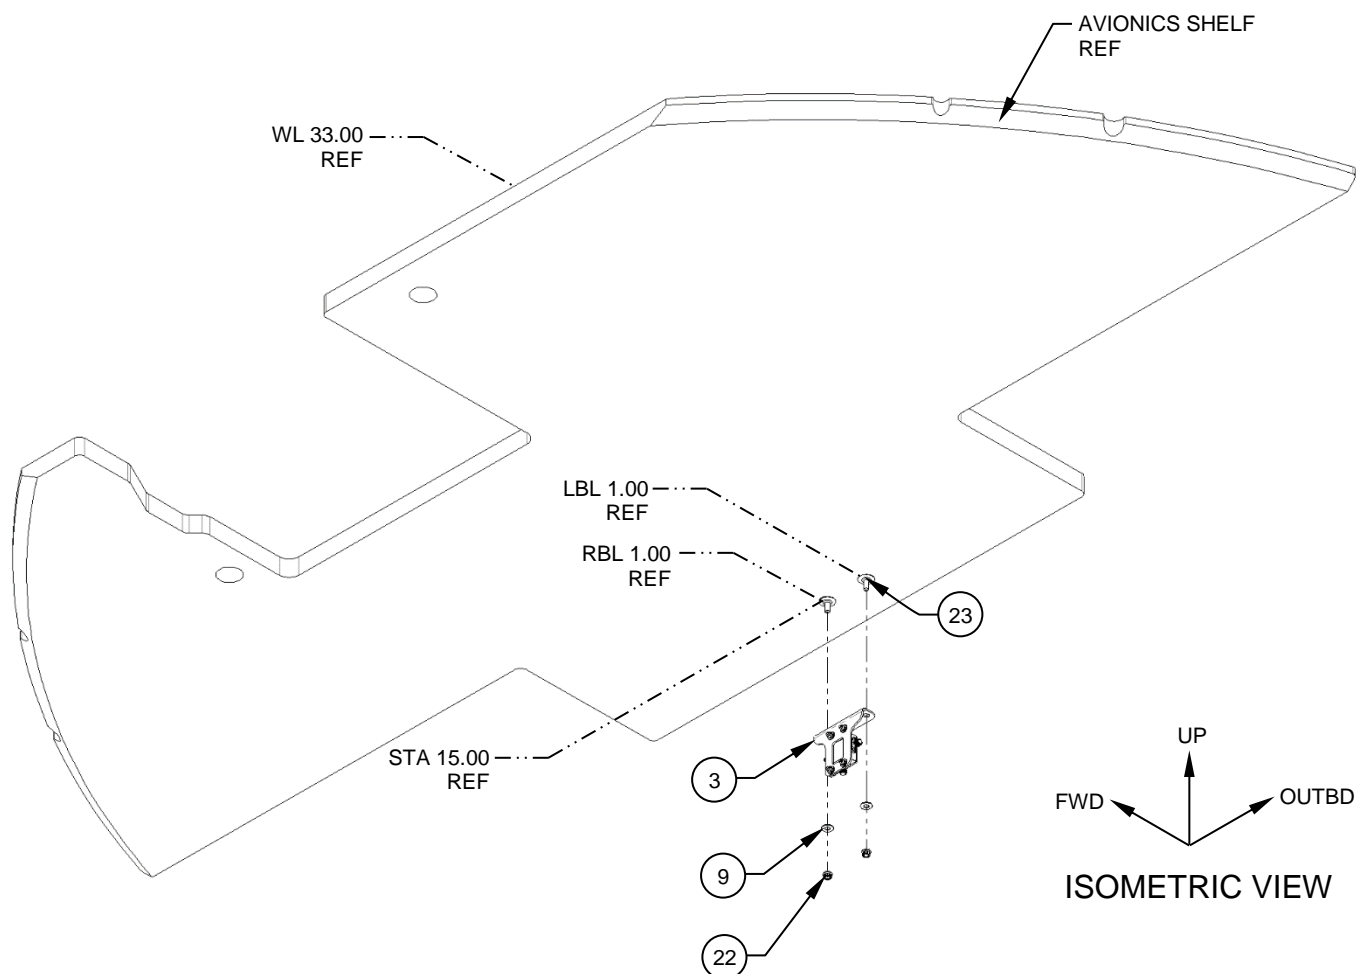
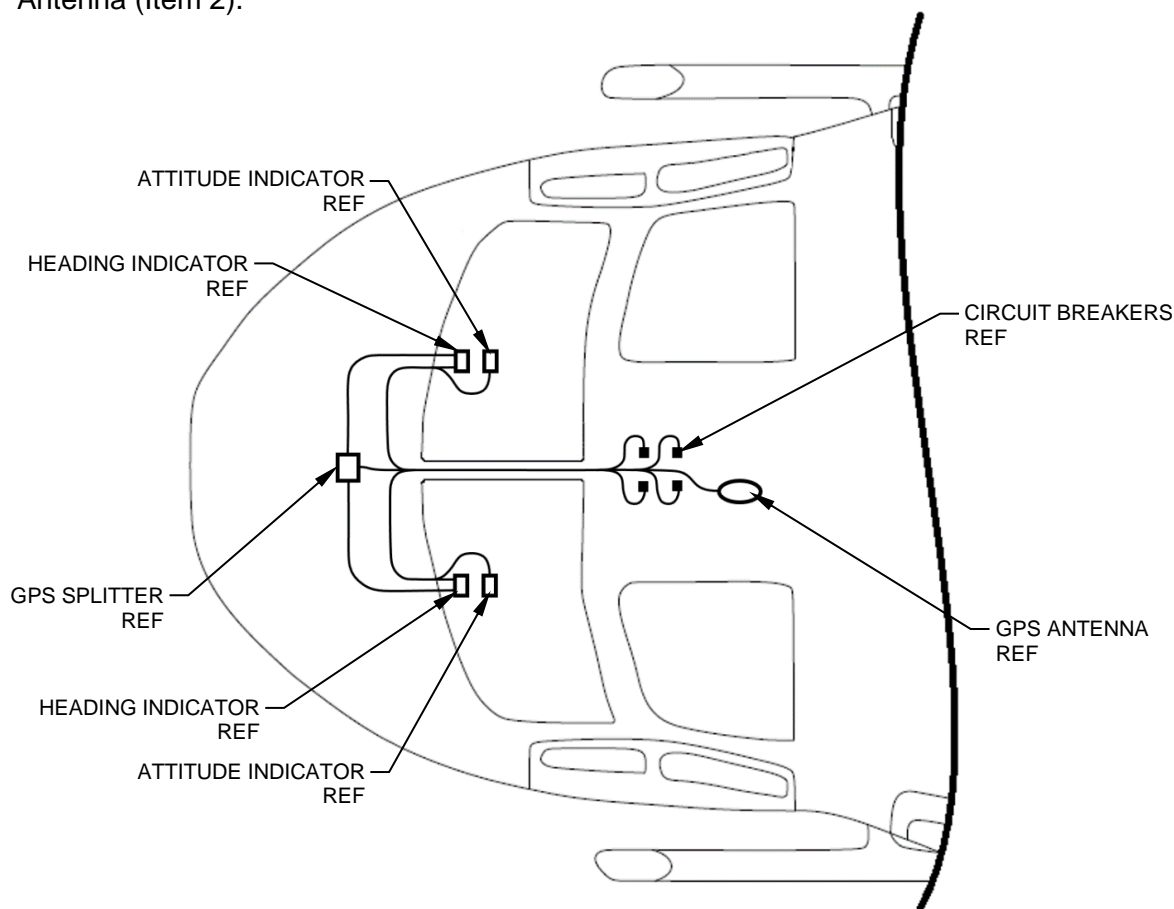

Figure 5
Figure 8
8. Install the Stud, Adhesive Mounted (Item 23) in the locations shown. Reference Figure 5. Installation of the studs shall be performed as per the instructions detailed in Appendix A. The position shown is the preferred location however, deviation is permitted to accommodate individual aircraft configurations. Recalculate weight and balance accordingly.
9. Install the Splitter, Assy (Item 3) with the supplied fasteners as shown. Reference Figure 5.
13. Install the Coax Cable, Assy (Item 48) by fastening the Coax Cable, Assy to the back of the pilot (RHS) Heading indicator (Item 31) and route the cable as shown. Reference Figures 8, 9 & 10 and Appendix B. Fasten the opposite end of the coax cable to the “OUT 2” port of Splitter (Item 5) Reference Figure 5. If not installing on the LHS as well, connect the coax cable to the “OUT 1” port.
14. Install the Coax Cable, Assy (Item 37) by fastening the Coax Cable, Assy to the back of the co-pilot (LHS) Heading Indicator (Item 31) and route the cable as shown. Reference Figures 8, 9 & 11 and Appendix B. Fasten the opposite end of the coax cable to the “OUT 1” port of the Splitter (Item 5) Reference Figure 5.
17. Install the Wiring Harness, Assy (Item 47) by fastening the connector to the back of the pilot Heading Indicator (Item 31) and route the wires as shown. Reference Figures 8, 9 & 10. Cut the un-terminated end of the wires to length and terminate with the provided ring terminals (Items 49 & 50) as per the wiring diagram. Reference Appendix B. Connect the newly terminated end to the Circuit Breakers (Items 52 & 53) as per the wiring diagram and connect ground wires to existing ground stud or ground block if available. If new ground studs or ground blocks are required, install IAW BHT-ELECT-SPM, Chapter 8. Reference Appendix B.
18. Install the Wiring Harness, Assy (Item 35) by fastening the connector to the back of the co-pilot Heading Indicator (Item 31) and route the wires as shown. Reference Figures 8, 9 & 11. Cut the un-terminated end of the wires to length and terminate with the provided ring terminals (Items 38 & 39) as per the wiring diagram. Reference Appendix B. Connect the newly terminated end to the Circuit Breakers (Items 41 & 42) as per the wiring diagram and connect ground wires to existing ground stud or ground block if available. If new ground studs or ground blocks are required, install IAW BHT-ELECT-SPM, Chapter 8. Reference Appendix B.
19. Install the Wiring Harness, Assy (Item 46) by fastening the connector to the back of the pilot Attitude Indicator (Item 30) and route the wires as shown. Reference Figures 8, 9 & 10. Cut the un-terminated end of the wires to length and terminate with the provided ring terminals (Items 49 & 50) as per the wiring diagram and connect ground wires to existing ground stud or ground block if available. If new ground studs or ground blocks are required, install IAW BHT-ELECT-SPM, Chapter 8. Reference Appendix B. Connect the newly terminated end to the Circuit Breakers (Items 52 & 53) as per the wiring diagram. Reference Appendix B.
20. Install the Wiring Harness, Assy (Item 36) by fastening the connector to the back of the co-pilot Attitude Indicator (Item 30) and route the wires as shown. Reference Figures 8, 9 & 11. Cut the un-terminated end of the wires to length and terminate with the provided ring terminals (Items 38 & 39) as per the wiring diagram and connect ground wires to existing ground stud or ground block if available. If new ground studs or ground blocks are required, install IAW BHT-ELECT-SPM, Chapter 8. Reference Appendix B. Connect the newly terminated end to the Circuit Breakers (Items 41 & 42) as per the wiring diagram. Reference Appendix B.
1. Determine installation location for the Stud, Adhesive Mounted (Item 23) per step 8 and Figure 5 of the Installation Instructions.